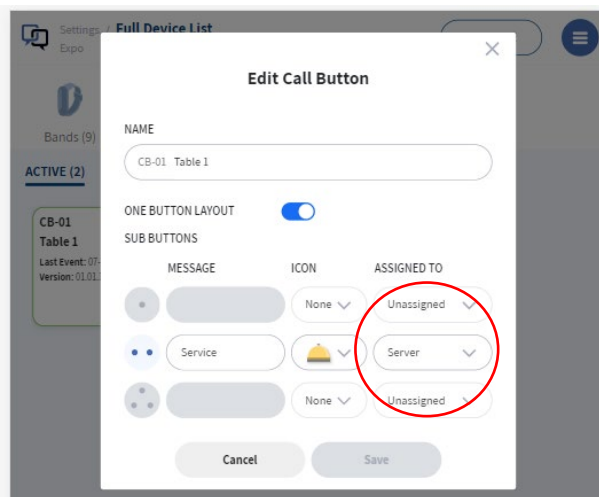

Fig. 1
**Call buttons need to be set up with the appropriate role prior to being able to assign them. i.e. Server (fig. 1)*